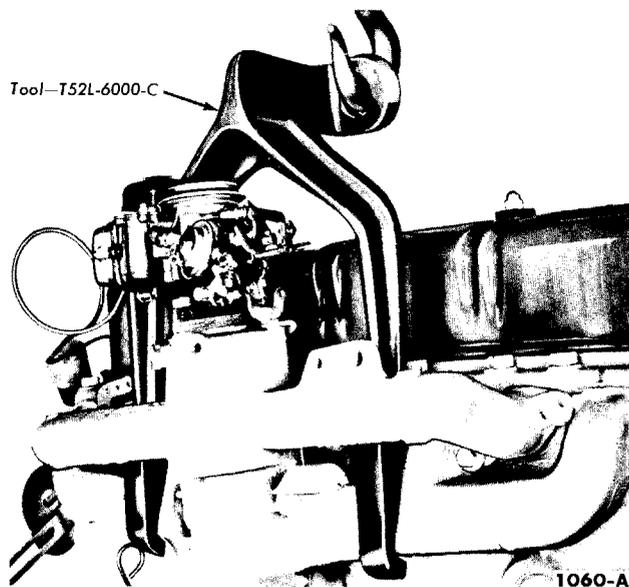
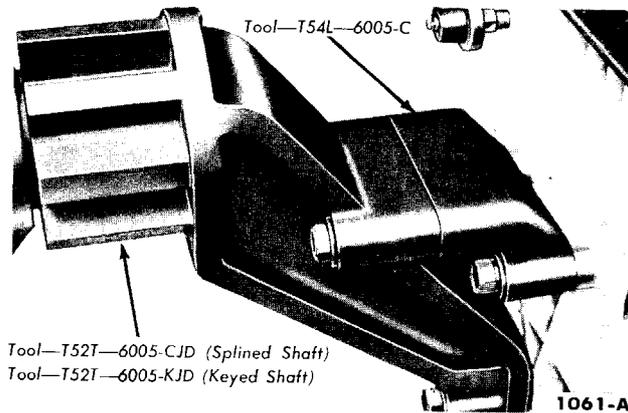

FIG. 8—Engine Lifting Hook
FIG. 9—Engine Mount
13. Attach the engine lifting hook (Fig. 8). Raise the engine slightly, then carefully pull it from the transmission. Lift the engine out of the chassis, then install it on a work stand (Fig. 9).